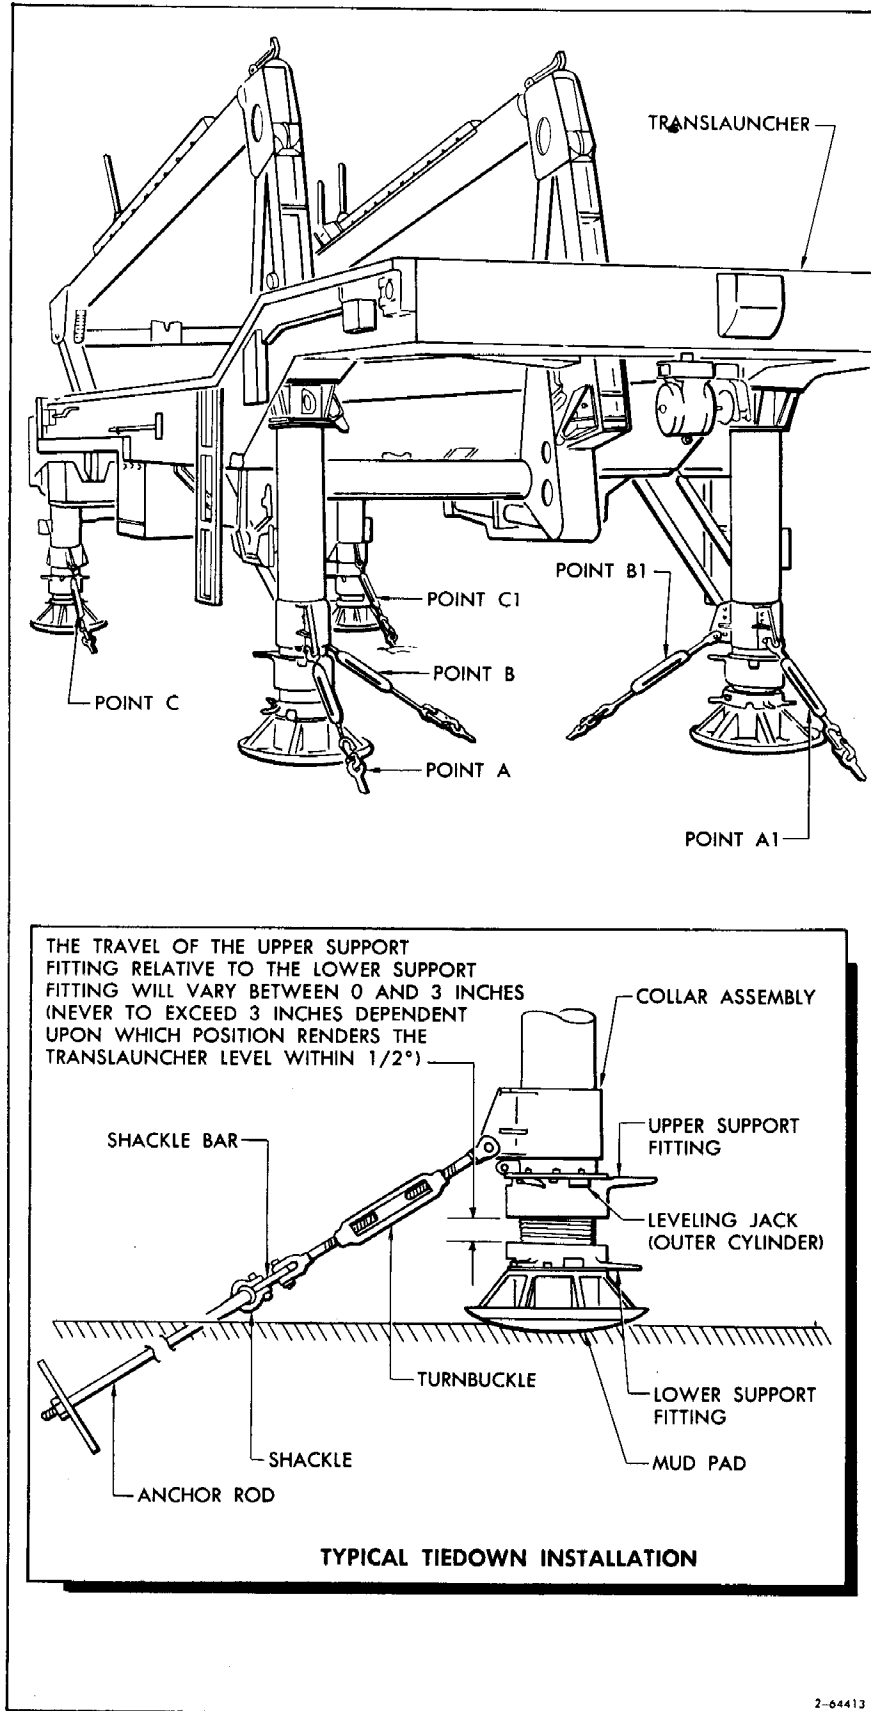

Figure 3-31. Securing Translauncher
- a. Secure collar assemblies on Translauncher jack legs with attaching bolts. (See figure 3-31.)